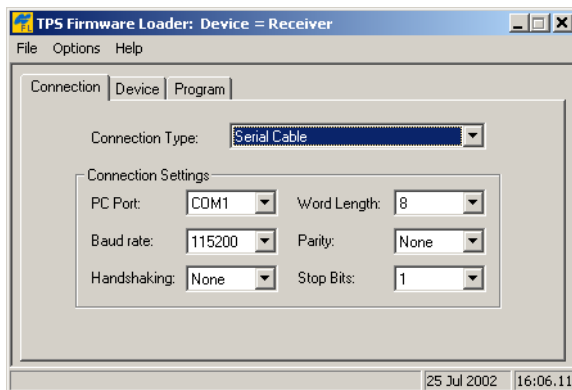

Figure 5-18. FLoader Main Screen
4. On the *Connection* tab, select the COM port on your computer that connects with your receiver and select its speed (usually 115200) (Figure 5-18 on page 5-17).